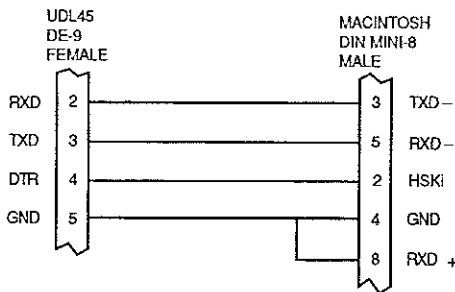

Figure 5-2. UDL45-to-Macintosh RS-232 Cable
The signal connections between a UDL45 RS-232 port and an Apple Macintosh^{*} or an IBM PC/AT^{*} or compatible personal computer are shown in figures 5-2 and 5-3, respectively.
- (1) Connect the UDL45 to the host computer according to figures 5-2, 5-3, or other applicable information.
- (2) Set the computer's serial port to 8 data bits, no parity, and 2 stop bits. If this setting cannot be made, communications with the UDL45 will not be possible.
- (3) Using the BAUD auxiliary function, set the UDL45 data rate to match the data rate of the host computer. See Section 3.5.5.
- (4) Using the commands as described in Section 5.3, verify communications with the UDL45.
- (5) If when trying to communicate with the UDL45 the REM annunciator flashes consistently and cannot be cleared, perform the following steps:
NOTE For additional information, see the user's manual for your computer. Connector pins not specified in figures 5-2 and 5-3 are not connected.